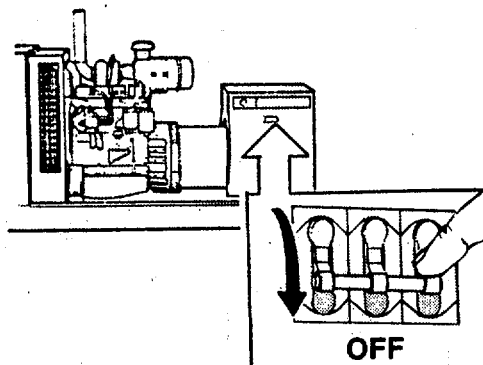

FIGURE 3-28. Set Circuit Breaker.
- b. Install machine bolts (4) and lockwashers (5) through the coupling disc into the flywheel. Torque 45 ft-lb.
- c. Install machine bolts (2) and lockwashers (3) through the generator frame adapter into the flywheel housing. Torque 35 ft-lb.
- (1) Open generator set circuit breaker. (FIGURE 3-28).